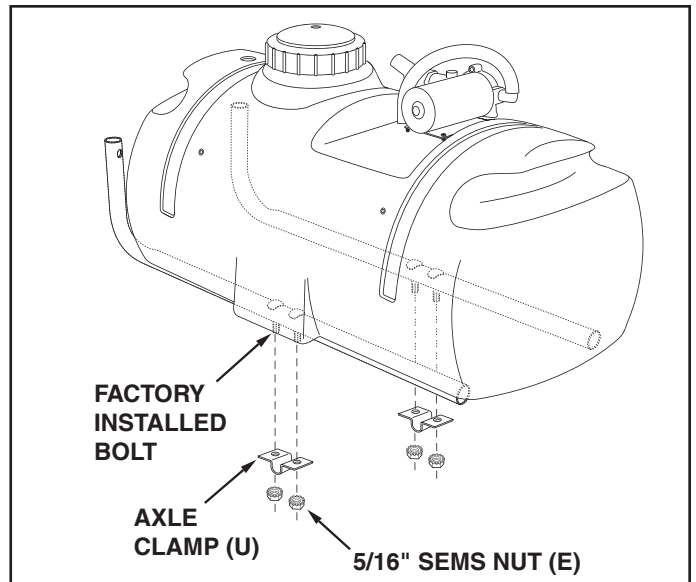

FIGURE 1
### STEP 1: (SEE FIGURE 1)
- Assemble a spacer (R), a 3/4" washer (H), a wheel (valve stem facing out) and another 3/4" washer (H) onto the axle. Assemble a cotter pin (M) through the end of the axle. Repeat on other end.
- **Tighten** the four nuts which fasten the axle clamps to the frame tubes. Refer back to figure 1.